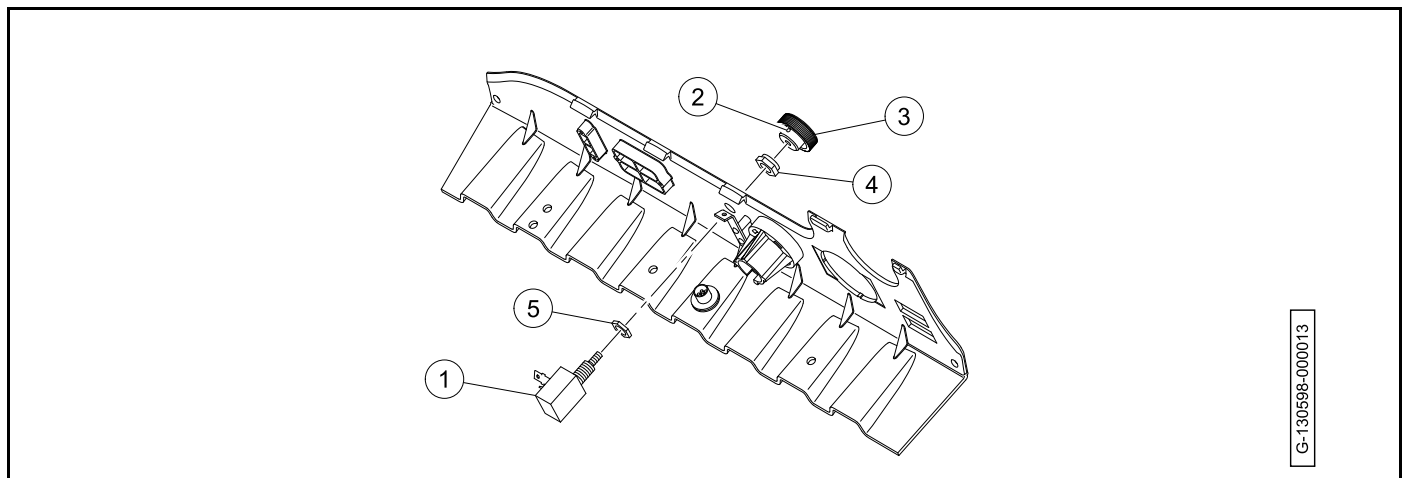

Figure 20-35 Headlight Switch
3. Disconnect the wires from the headlight switch (1) (**Figure 20-35, Page 20-31**).
4. Loosen the set screw (2).
5. Remove the threaded knob (3).
6. Remove the nut (4).
7. Remove the headlight switch and nut (5).
1. Install the nut (5) onto the headlight switch (1) (**Figure 20-35, Page 20-31**).
3. Install the nut (4). Tighten the nut to 2.2 lb·in (0.25 N·m).
4. Tighten the nut (5).
5. Install the threaded knob (3).
6. Tighten the set screw (2).